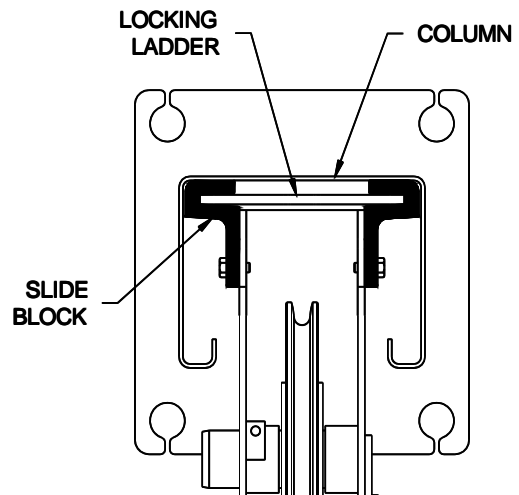

Fig 9 – Locking Ladder Orientation
- 13) Raise the locking ladder, push the column against the slide blocks, and lower the ladder into the slide blocks, Fig 9.